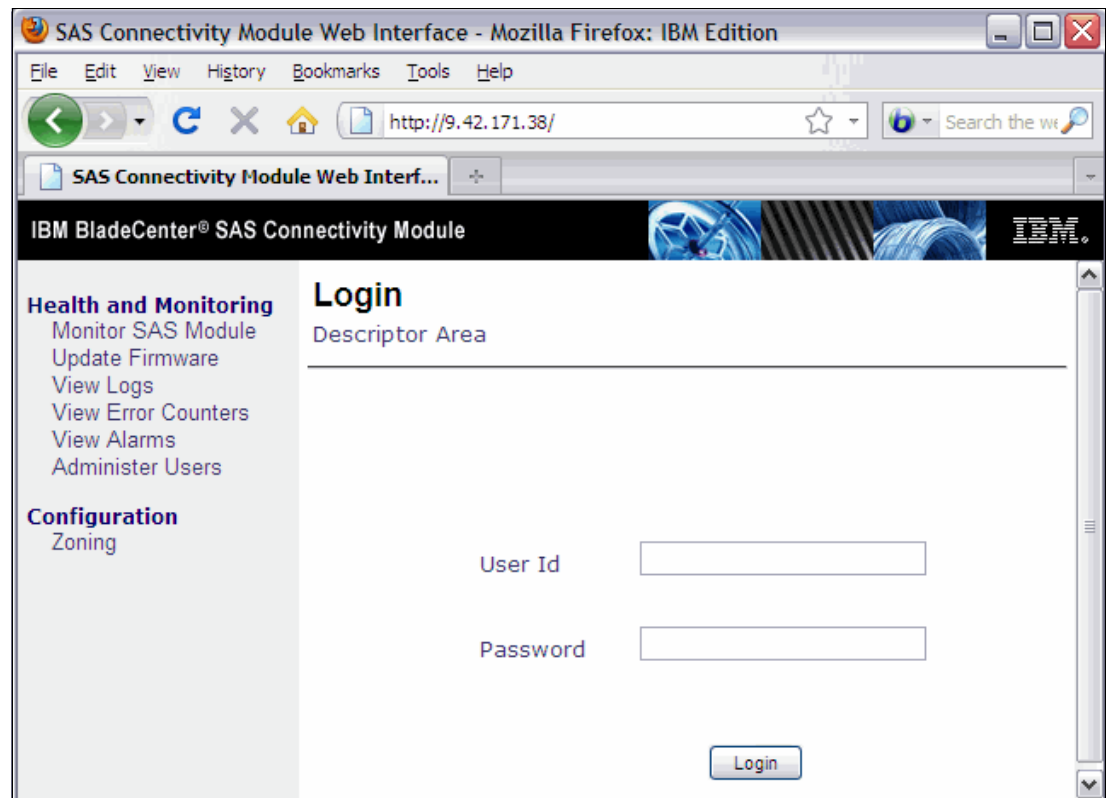

Figure 18-8 SAS Connectivity Module - Login
1. Log on to the SAS Connectivity Module using the web interface with the IP address defined for the connectivity module in the BladeCenter Advance Management Module (AMM) as shown in Figure 18-8. Use USERID as the user Id and PASSWORD as the password. You can change the password under the Administer Users menu option after you are logged on.